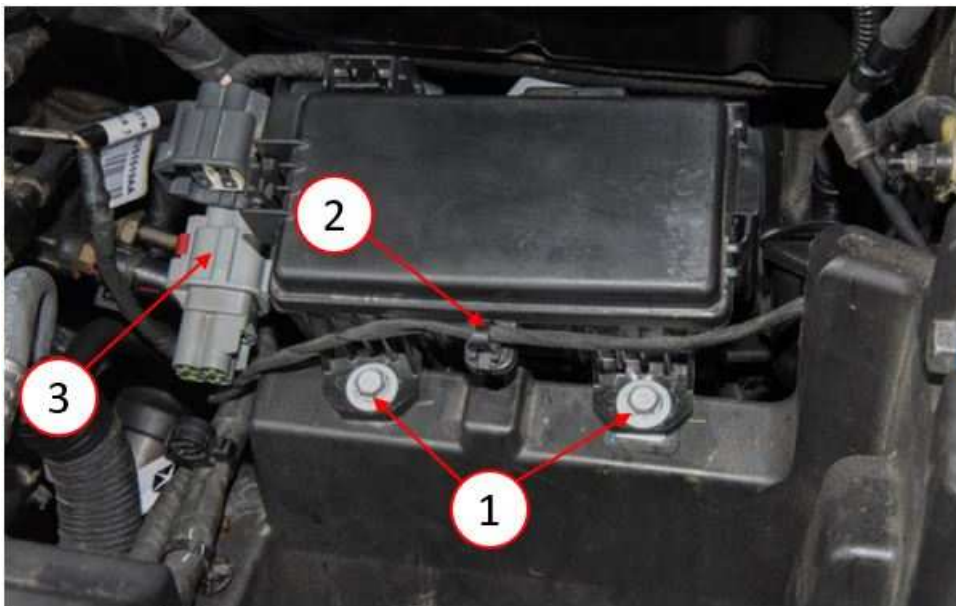

Fig. 2
4. Remove the AUX PDC mounting bolts and wire harness (Gas engine only) retainer, (Fig. 2) .
16. Install the AUX PDC back onto the PDC mounting bracket, (Fig. 2) .